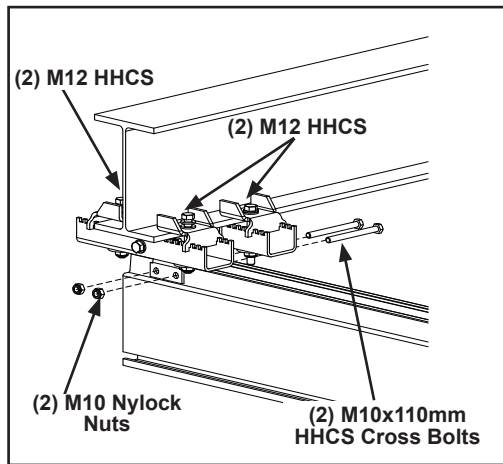

Figure 3-31
- Step 3. Center I-Beam brackets on lower I-Beam flange. See Figure 3-31.